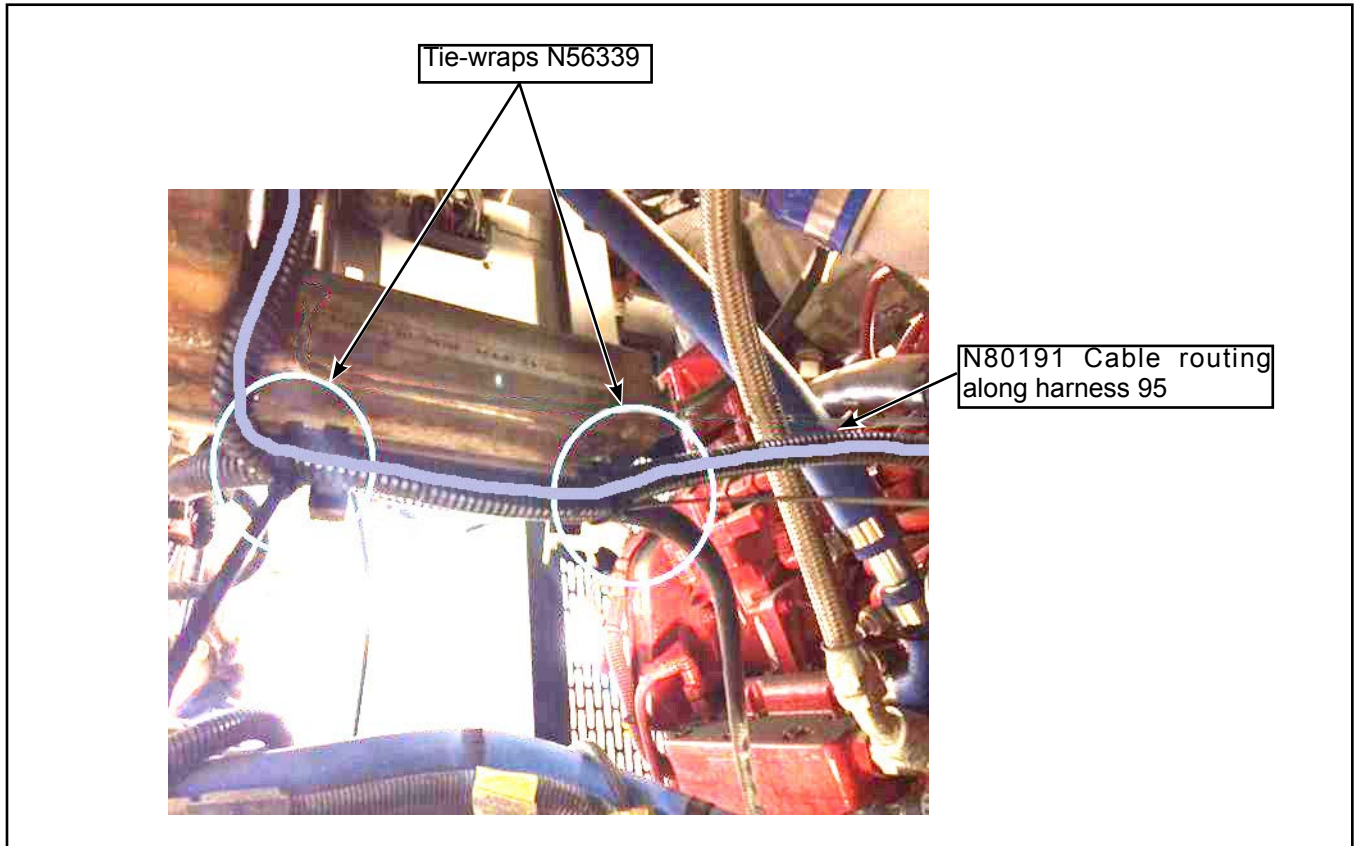

Figure 9 - Cable Routing Along Harness 95
1.10. Continue cable routing along harness 64 until it merges with harness 95 near the engine ECM (see Figure 9).